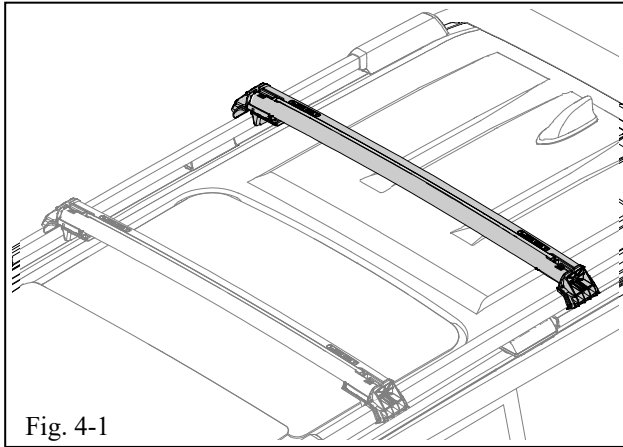

Fig. 4-1
- (a) Install the rear cross bar in same fashion that you installed the front cross bar. Refer to steps 1-3 and apply them to the rear cross bar. (Fig. 4-1).